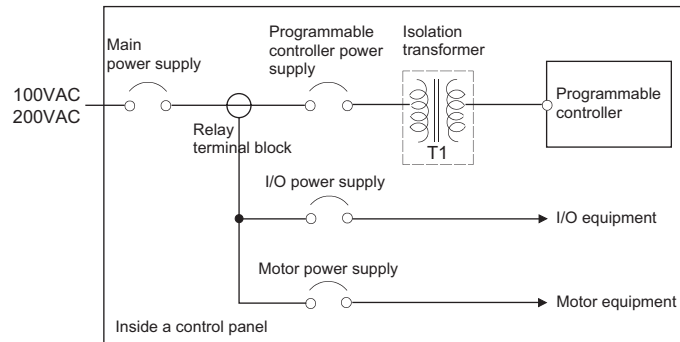

Figure 10.41 Power supply wiring
(1) Wiring power supply lines
- Wire the power supply lines for programmable controller, I/O devices, and motor equipment separately as shown in Figure 10.41.